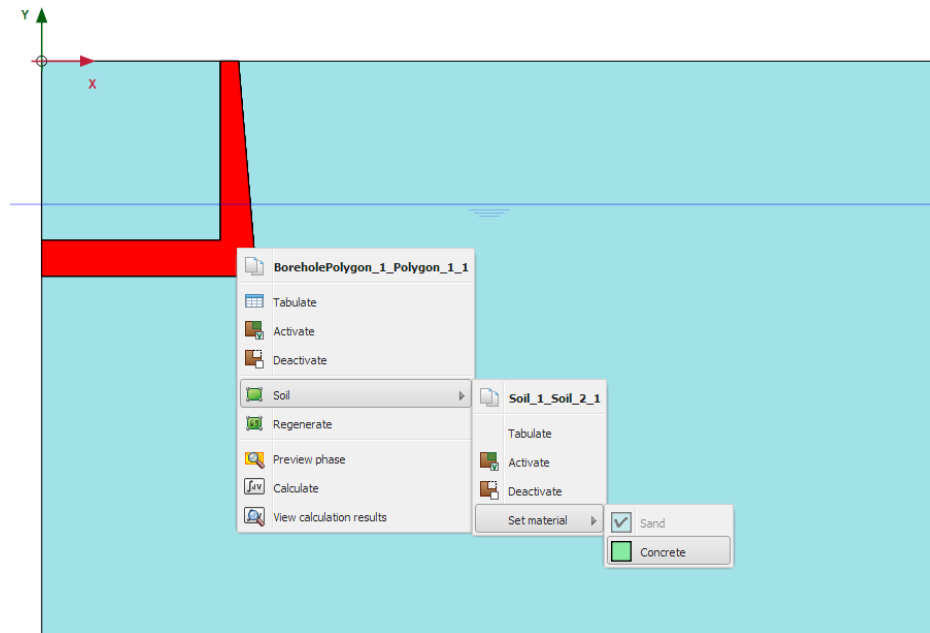

Figure 233: Concrete set as material for polygon
6. In the **Staged construction** mode, assign the **Concrete** dataset to the created polygon which represents the navigable lock as shown in Figure 233 (on page 263).